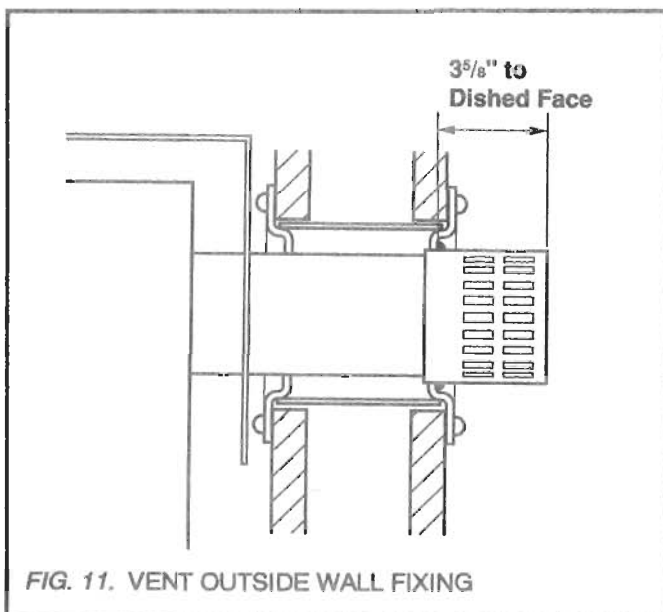

FIG. 11. VENT OUTSIDE WALL FIXING
- 7.7. Place the remaining wall plate over the outside wall end of the vent unit with the dished projection facing inside. Push the plate up to the wall so that the dished projection locates inside the vent shield tube - see figure 11. (Remove any temporary securing wedges). If possible while still maintaining a sound connection to the appliance, slope the vent unit very slightly down towards the outside so that any rain will run away from the appliance. **The vent unit should never slope down into the appliance. This could cause water to accumulate in the appliance.** Mark the wall plate fixing holes on the wall. Remove the plate.
- 7.9. Replace the wall plate locating it firmly inside the shield tube. Make sure that the slots in the terminal end cap are outside the wall plate (see figure 11).
- 7.10. Line up the screw holes and start the mounting screws. Apply a clear silicone rubber sealant under the edges of the wall plate and tighten the screws. Apply a bead of silicone sealant around the vent tube where it exits the wall plate - see figure 11.